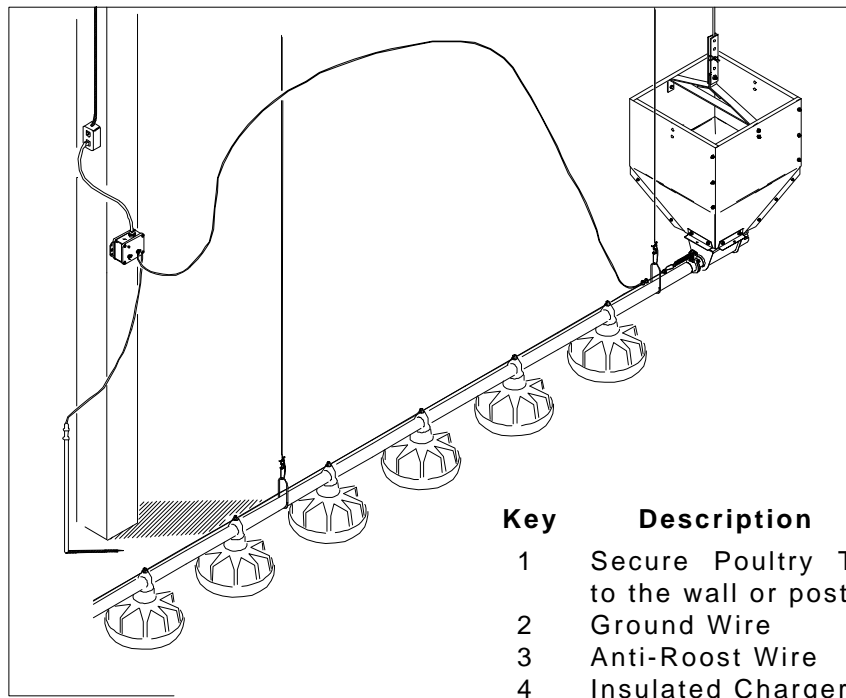

Figure 43. Poultry Trainer Installation
11. Install the Poultry Trainer or Line Charger, as shown in **Figure 43** or **44**.
The Poultry Trainer is used to power all Anti-Roost lines in a house. See **Figure 43**.